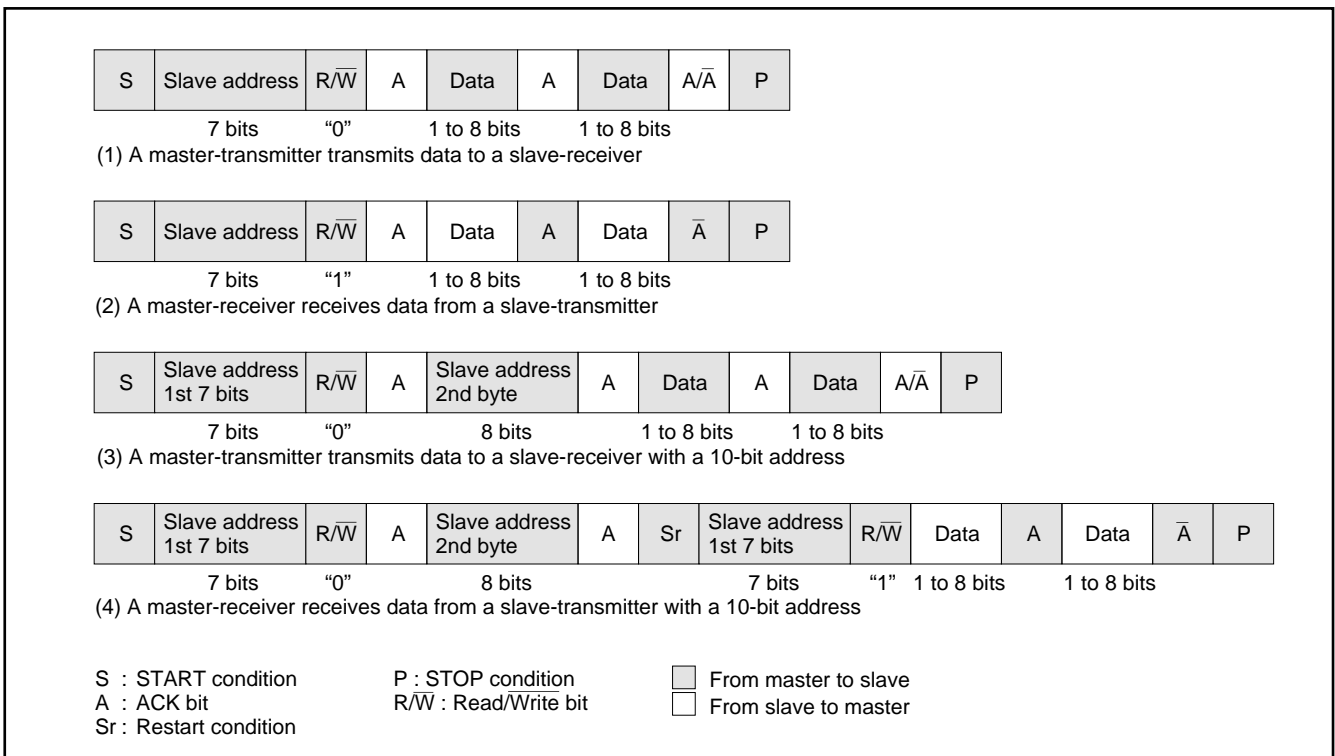

Fig. 22. Address data communication format
① 7-bit addressing format
To meet the 7-bit addressing format, set the 10BIT SAD bit of the I²C control register (address 00DA16) to "0." The first 7-bit address data transmitted from the master is compared with the high-order 7-bit slave address stored in the I²C address register (address 00D816). At the time of this comparison, address comparison of the RBW bit of the I²C address register (address 00D816) is not made. For the data transmission format when the 7-bit addressing format is selected, refer to Figure 22, (1) and (2).
② 10-bit addressing format
When the first-byte address data matches the slave address, the AAS bit of the I²C status register (address 00D9₁₆) is set to "1." After the second-byte address data is stored into the I²C data shift register (address 00D7₁₆), make an address comparison between the second-byte data and the slave address by software. When the address data of the 2nd byte matches the slave address, set the RBW bit of the I²C address register (address 00D8₁₆) to "1" by software. This processing can match the 7-bit slave address and R \overline{W} data, which are received after a RESTART condition is detected, with the value of the I²C address register (address 00D8₁₆). For the data transmission format when the 10-bit addressing format is selected, refer to Figure 22, (3) and (4).
(10) Example of Master Transmission